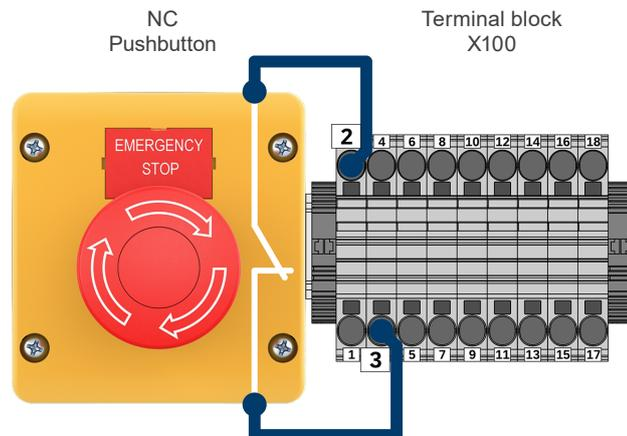

Figure 5.5: Emergency power off (EPO) connection
The normally closed (NC) emergency power off pushbutton must be connected to terminal block X100, pins 2 and 3. To connect the emergency pushbutton, the *jumper* between pins 2 and 3 must be removed, and the pushbutton wiring must be installed as shown in Figure 5.5 on page 5-5.